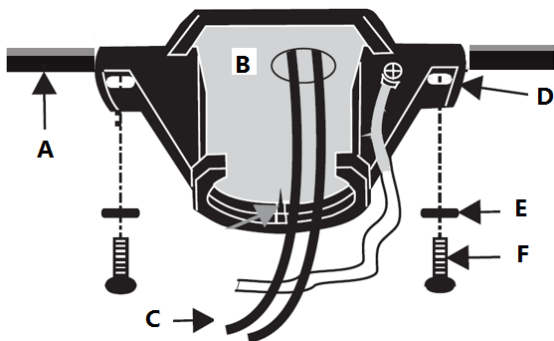

Fig. 7
Pass the power supply wires (C) from the ceiling outlet box (B) through the center of the ceiling hanger bracket (D). Install the ceiling hanger bracket (D) on the outlet box (B) with the mounting screws (F) provided with the outlet box and washers (E) provided with fan. **Fig. 7**